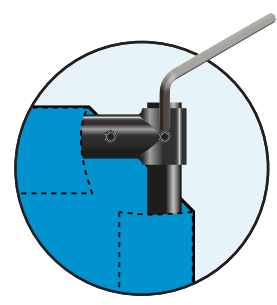

Fig 11.
10. Secure the T joint on the end of the pole by tightening the grub screws with the allen key provided. (Fig 11)